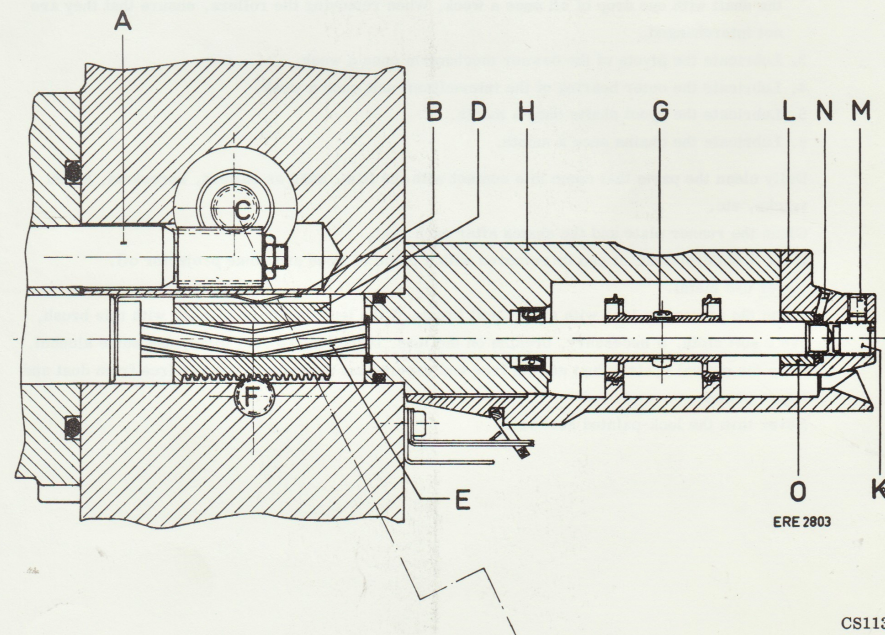
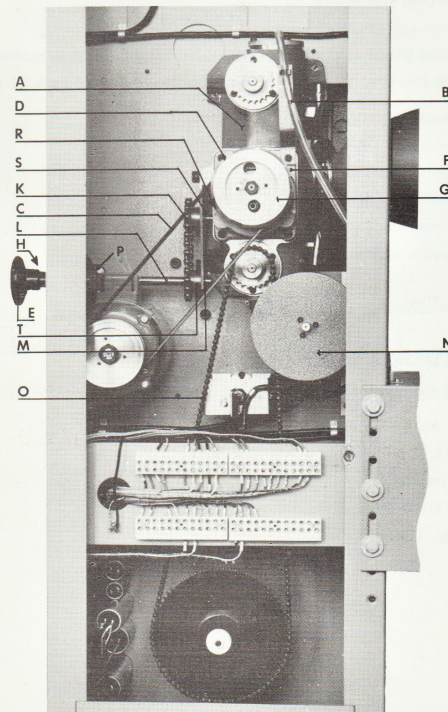

Fig. 3
Fig. 4
- . Drain the oil from projector mechanism A, Fig. 4 via transparent plastic tube B, Fig. 4.
- . Remove the motor belt C, Fig. 4.
- . Loosen the 4 screws D, Fig. 4.
- . Turn framing knob E, Fig. 4 as far as possible clockwise.
- . Carefully pull intermittent unit F, Fig. 4 out of the projector mechanism.
- . Ensure that leaf spring B, Fig. 3 does not drop into the projector.
- . If framing bushing D, Fig. 3 remains in the projector mechanism, disassemble this mechanism as follows.
- . Position leaf spring B, Fig. 3 in the groove, bent part down.
- . Subsequently, slide the intermittent unit into the projector mechanism and simultaneously turn the framing knob E, Fig. 4 so that the teeth of the framing bushing engage the teeth of framing shaft F, Fig. 3.
- . After framing shaft F, Fig. 3 has engaged framing bushing D, Fig. 3 turn the flywheel G, Fig. 4 until the shaft of the intermittent unit is in an intermittent position (approx. mid position).
- . Press the intermittent unit as far as possible into the projector mechanism, simultaneously turning the flywheel G slightly to the left and to the right until the teeth of intermittent sprocket shaft E, Fig. 3 engage the nylon bushing of framing bushing D, Fig. 3. This is facilitated by turning the intermittent sprocket. Moreover, damage to the teeth is prevented.
- . Now press the intermittent unit completely into the projector mechanism. Ensure that the teeth of the sprocket shaft A, Fig. 3 can properly engage the teeth of the main shaft B, Fig. 18.
- . Turn the four screws D, Fig. 4 in (do not tighten).
- . Check the position of ring H, Fig. 4. The white line on this ring should correspond to the white dot on the projector housing, while the framing mechanism should be in the mid-position.
- . Check that the intermittent unit runs smoothly, also in the two extreme positions of the framing mechanism. If it does not in the extreme pos. turn framing knob E, Fig. 4 slightly back.
Framing bushing D, Fig. 3
Intermittent sprocket Fig. 3, page 10Disassembling
Pivot screw K for sprocket shaft, Fig. 3, page 10Adjusting
- Hold the measuring gauge against the slide of the intermittent sprocket and turn framing knob E, Fig. 4 to and fro. The deflection on the gauge should be 0.01 mm (0.000393").
Bearing bushing O for sprocket shaft, Fig. 3, page 10Disassembling and assembling
Framing shaft, inner, Fig. 4, page 11Disassembling
Framing shaft, outer L, Fig. 4, page 11Disassembling
- . Remove flywheel N, Fig. 4, page 11
- . Adjust intermittent sprocket with knob E, Fig. 4 to the beginning of an intermittent cycle.